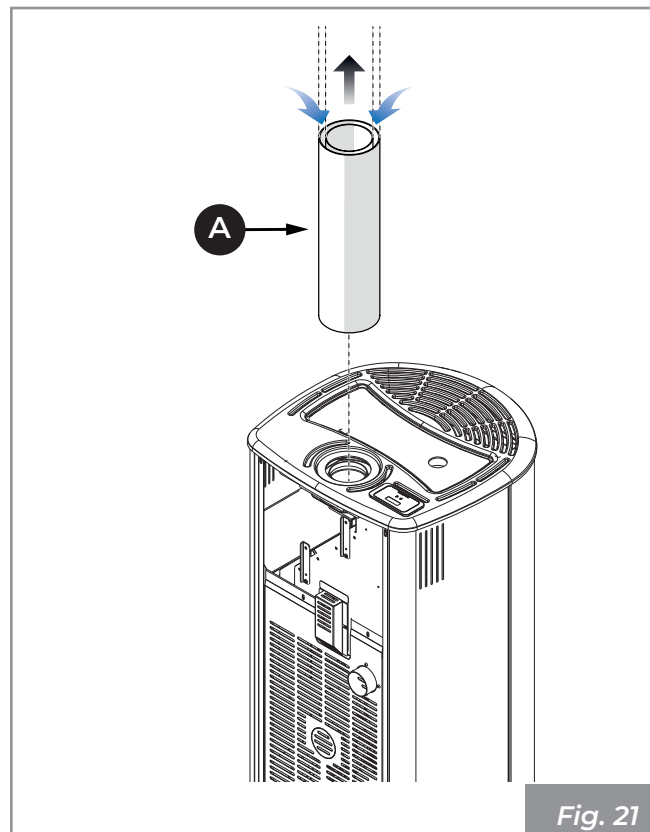

Fig. 21
- Connect the coaxial pipe **(A)** (**Fig. 21**).